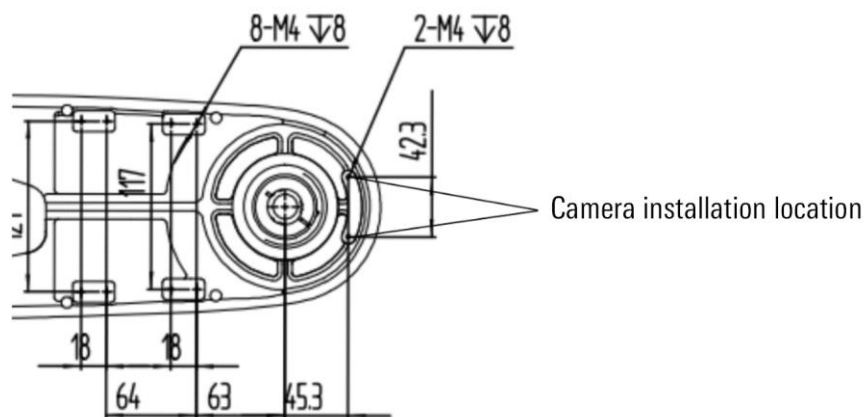

Figure 5-16 Installation dimension diagram of AIR12SC600&700 arm camera
When installed on both sides of the forearm (shown in Figure 5-16) $WM = M (L1)^2 / (L1+L2)^2$
When installed at the top of the forearm (shown in Figure 5-16): $WM = M (LM)^2 / (L2)^2$